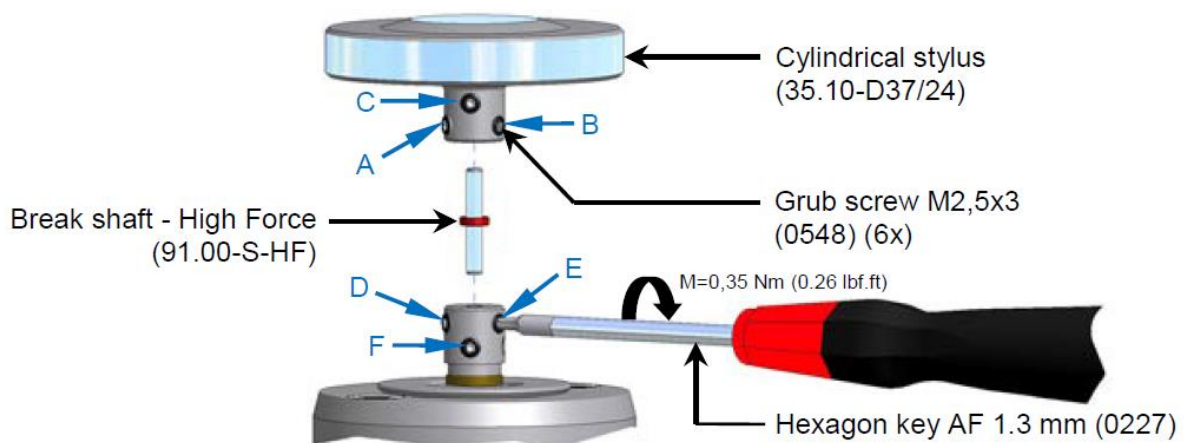

Figure 13 Stylus Change
1. Loosen the grub screws **D**, **E** and **F** (refer to Figure 13) and remove the cylindrical stylus together with the break shaft from the break shaft adapter.
2. Loosen the grub screws **A**, **B** and **C** of the cylindrical stylus (refer to Figure 13) and remove the break shaft.